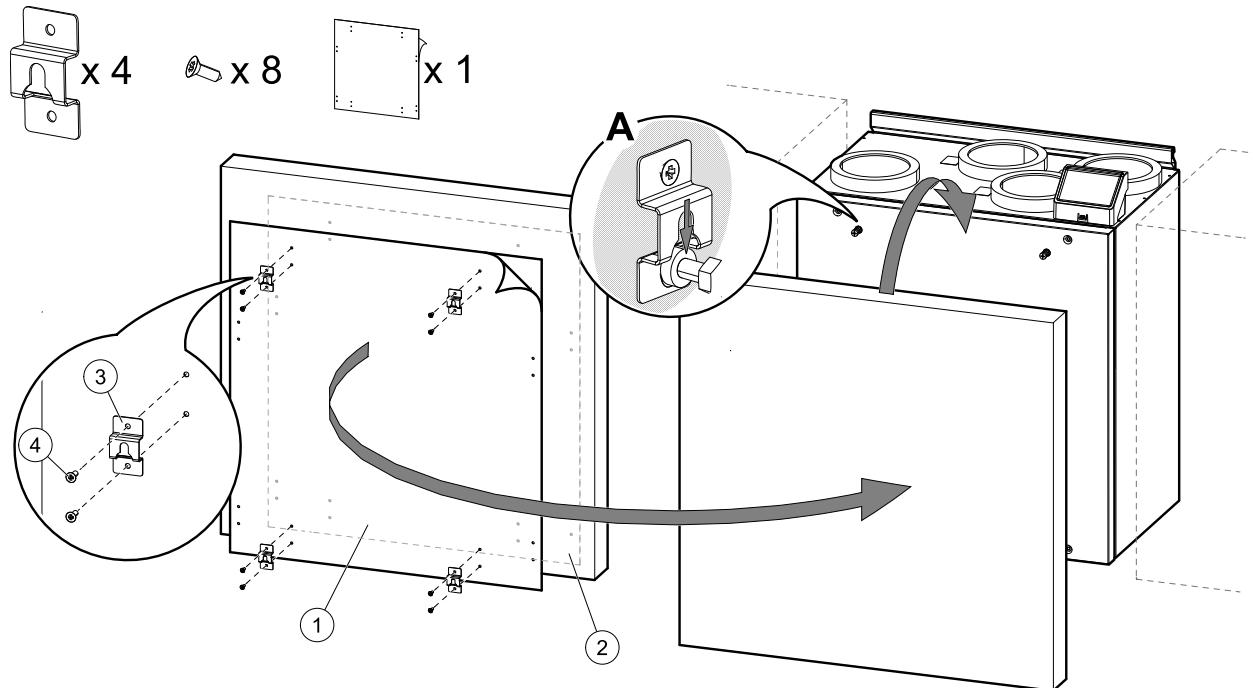

Fig. 21 Installation of hooks and mounting of the kitchen furniture panel
2. Sticker with marked holes (figure 21, pos. 1) is included with the unit. Holes mark spots for screws to secure hooks. Place the sticker on a back of the kitchen furniture panel (figure 21, pos. 2), adjust position of the sticker according to the panel size and position of the unit between cabinets. Size of the sticker is the same as the unit.
Once correct position is found, attach four hooks (figure 21, pos. 3) by fastening each with two screws (figure 21, pos. 4). Hang the kitchen furniture panel on protruding bolts (figure 21, pos. A).